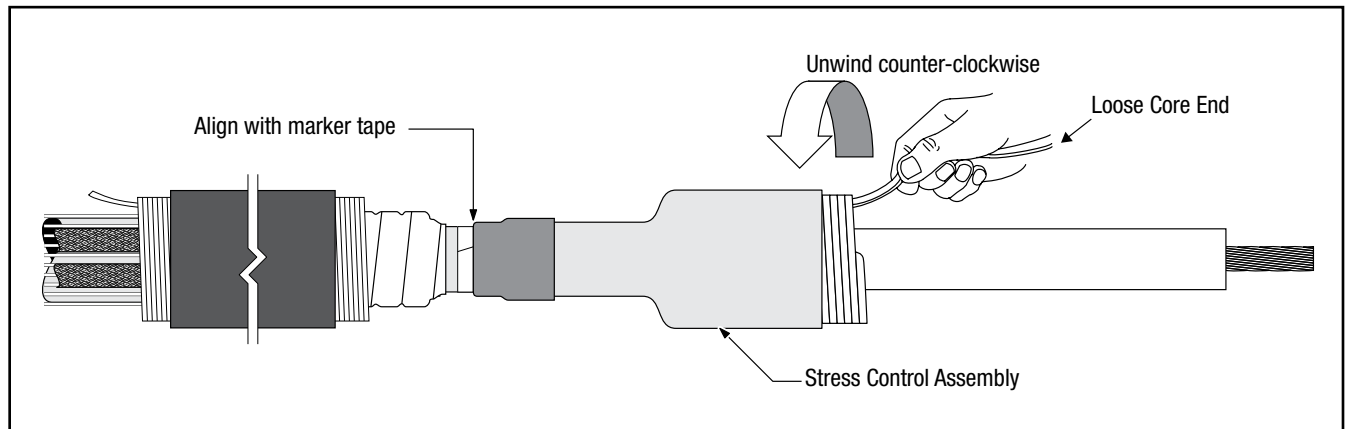

Figure 23
- 6.4 Select the stress control assembly (this is the medium length, black colored, two-piece cold shrink tubular assembly on one medium size core) from the kit. Slide the stress control assembly over the cable with the loose core end toward the cable end. Align the stress control assembly tube (not the core) with the marker tape, and remove the core by pulling the loose core end while unwinding counter-clockwise. (Figure 23)